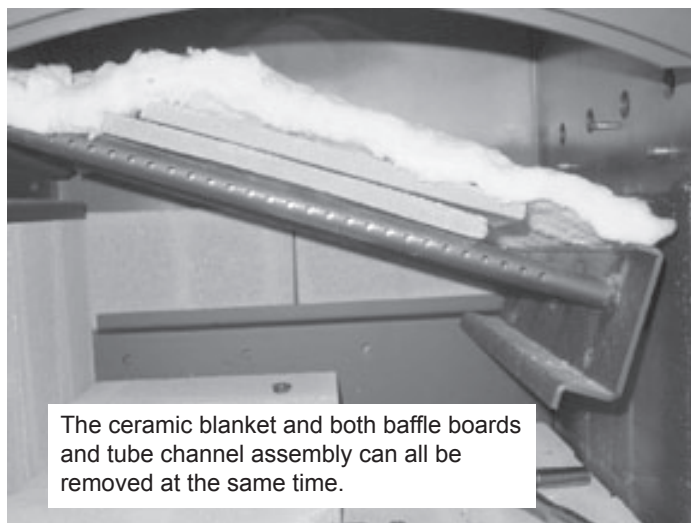

Figure 24.1
4. Slide the tube channel assembly to the left as far as it will go and lower the right side. Remove the baffle boards and ceramic blanket together. **Figure 24.1**.